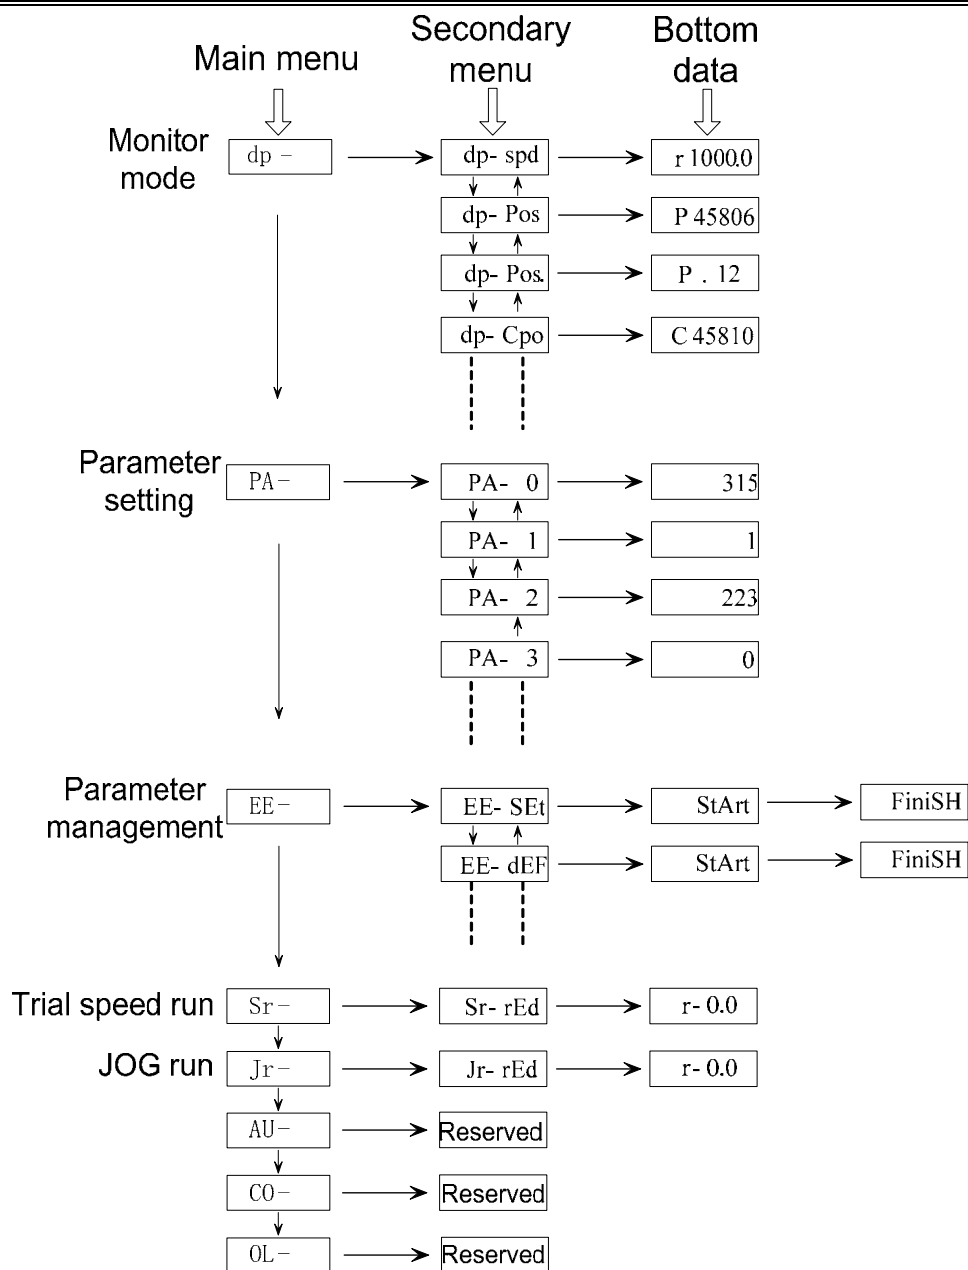

Fig.4.1 Parameter structure diagram
The operation of DAP01 is performed by 3 level menus: the first level is the main menu which involves 8 modes; the second level is function menu under the modes; the 3rd level is data level. As is shown in Fig.4.1, after the power-on initialization in drive unit, press  key to enter the first level main menu, the press  or  key to select a mode in 8 modes. Only 5 modes are effective in this version: i.e. Monitor mode (dP) 、Parameter setting (PA) 、Parameter management (EE) 、Speed trial run (Sr) 、JOG run (Jr) . And the other 3 modes are reserved for further development that is unallowed for operation. After a mode is selected, press  key to enter the lower menu of this mode; press  key to return to the upper menu if you want to return. If the  key is repressed, the control enters the bottom data level of the 3rd level.